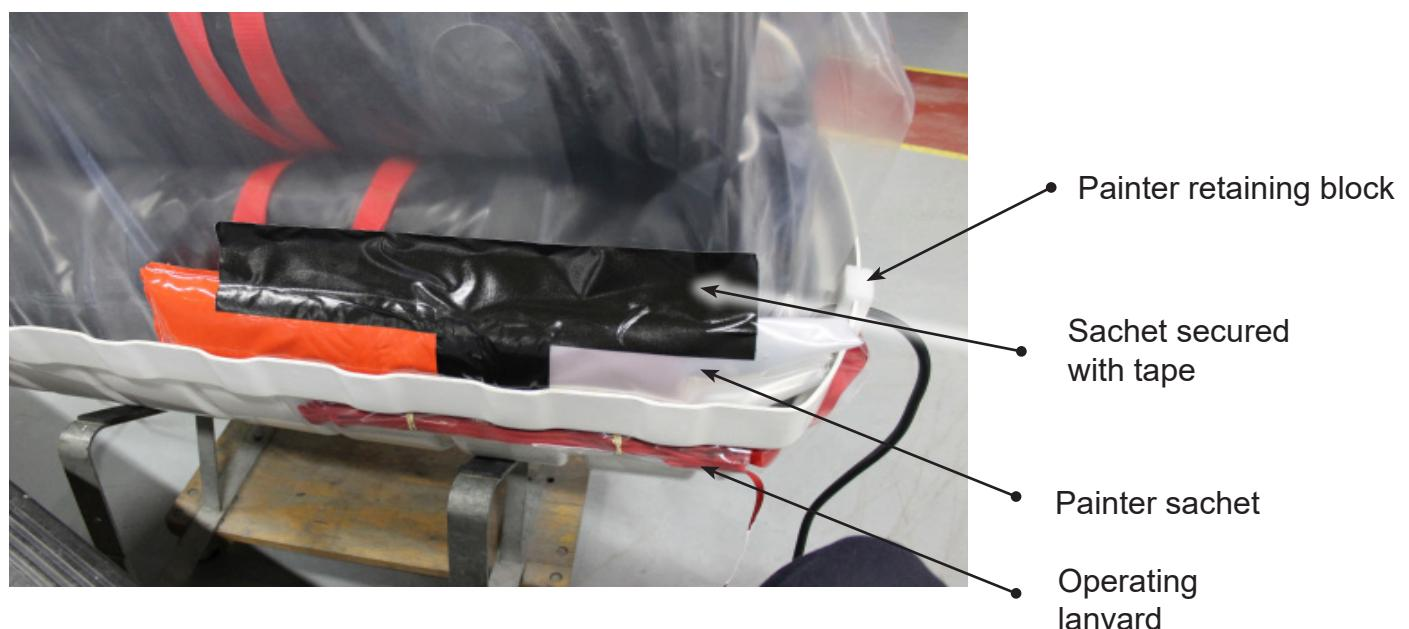

FIGURE 833
- 5.50 Put the painter sachet along the back of the container. Refer to FIGURE 833. Make sure that the painter cord is in line with and close to the painter exit hole. Make sure that the painter line can freely exit the sachet.
- 5.51 Make sure that the open end of the painter sachet, is as close as possible to the painter exit position on the container. Adjust the painter sachet extension so that the distance from it to the painter exit is between 100 - 150 mm (4"- 6"). Refer to FIGURE 833.
- 5.53 Secure the painter sachet in place, by taping it to the polyethylene sheet. Refer to FIGURE 833.
- 5.54 Put the rubber sheathed end of the painter line through the painter retaining block. Put the painter retaining block into the cut-out in the container. Make sure that the operating lanyard passes into the container under the painter retaining block. Refer to FIGURE 833.